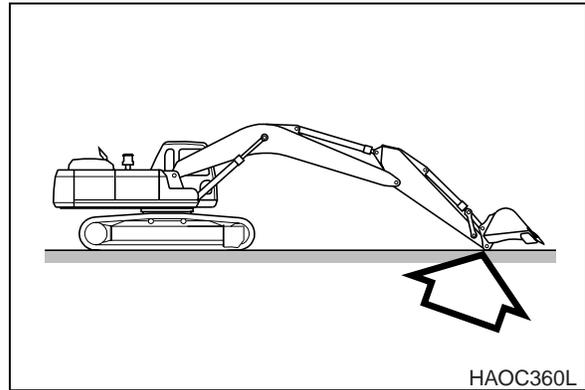

Figure 14
1. Position the machine on firm, level ground. Lower boom and position bucket on ground as shown in Figure 14.